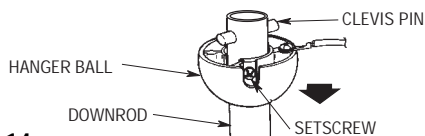

Figure 14
- 3. Obtain the hanger ball/downrod assembly and remove the hanger ball by loosening the setscrew in the hanger ball until the ball falls freely down the downrod (Figure 14). Remove the pin from the downrod, then remove the hanger ball. Retain the pin and hanger ball for reinstallation in step 9.